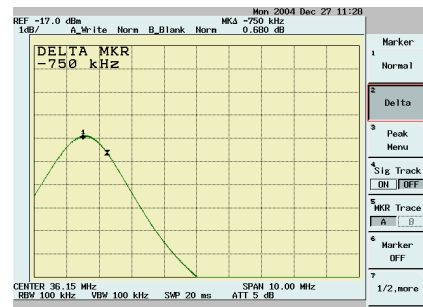

Fig. 2
- Calibrate **C17** and **L5** to tune the cell of D.P. to the frequency of the audio carrier subtracting about 750kHz (Fig.2) with **JP3** on and **JP4** and **JP5** off.